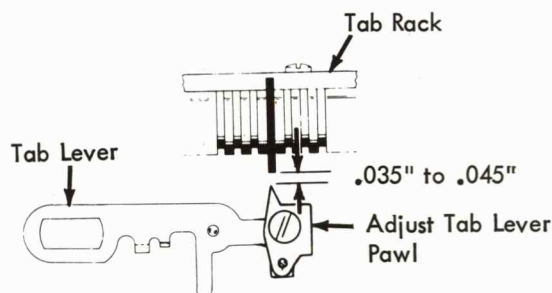

FIGURE 172. Tab Lever Pawl
2. Tab Lever Pawl - Adjust the pawl forward or back on the tab lever so that the tip of the pawl clears a SET tab stop by .035" to .045" with the tab lever at rest (Fig. 172).